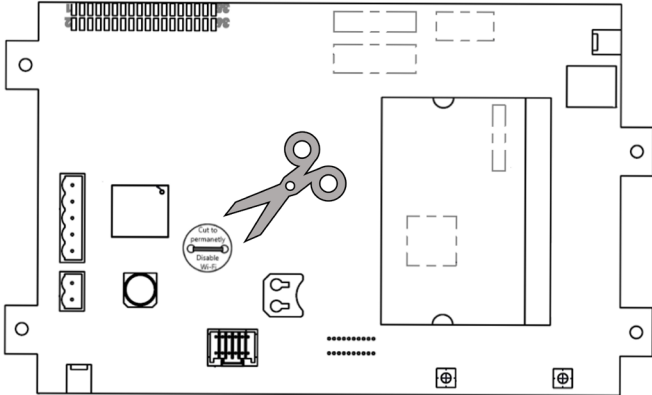

Figure 105. Cut to Disable Wi-Fi
NOTE: For Touchscreens with built-in Wi-Fi module, proceed to cut jumper wire. By cutting this wire, the Wi-Fi module is disabled. Any attempt to modify the wire or modify the board will void touchscreen assembly warranty. See Figure 105.
- Cut Wi-Fi jumper per **Figure 105**.